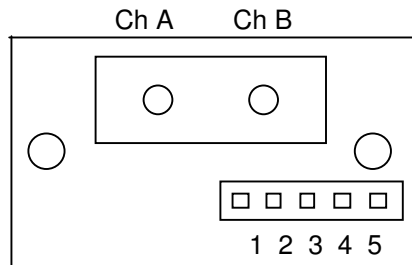

Figure 1 – LEDCHECK Module
0.100" Centerline Header, for Address, Wavelength Output, & Power Connections. Orientation and connections are shown in Figure 1 and Table 1.